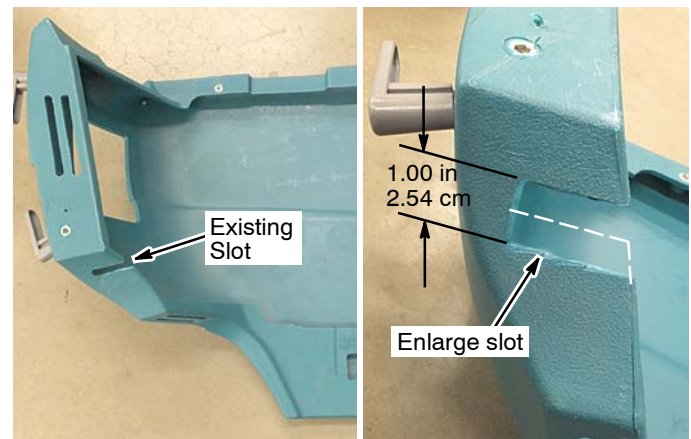

FIG. 25
11. Enlarge the existing slot in the left-side panel as shown. This will allow clearance for the battery charger power cord and harness (FIG. 25).